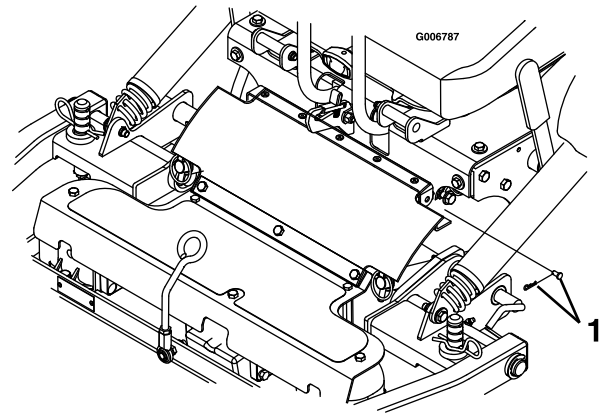

Figure 21
3. Remove the hairpin cotters and clevis pins from both sides of the PTO guard (Figure 21).